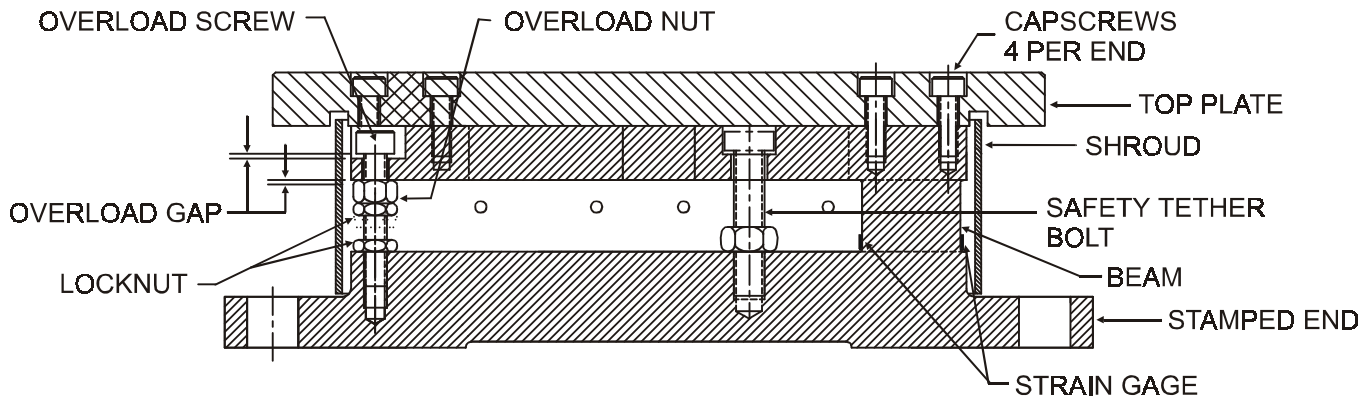

Figure 1 - CUT-AWAY VIEW OF MODEL UPBV TRANSDUCER
1.2 CONSTRUCTION AND MECHANICAL OPERATION (see Figure 1)